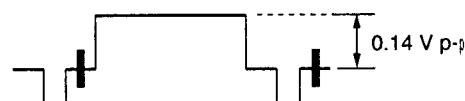
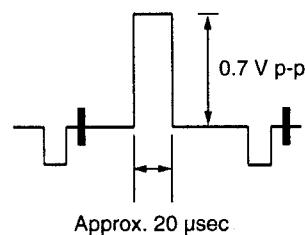

Fig. 3. 525/60 All Gray Signal
Fig. 4. 525/60 Window Signal
2. Input the all gray signal (Fig. 3) into the RGB input.
6. Input the window signal (Fig. 4) into the RGB input.
11. Repeat steps 2 to 10 so that the luminance and white balance of the cut-off side (Fig. 3) and drive side (Fig. 4) become the specifications shown in Table 1.